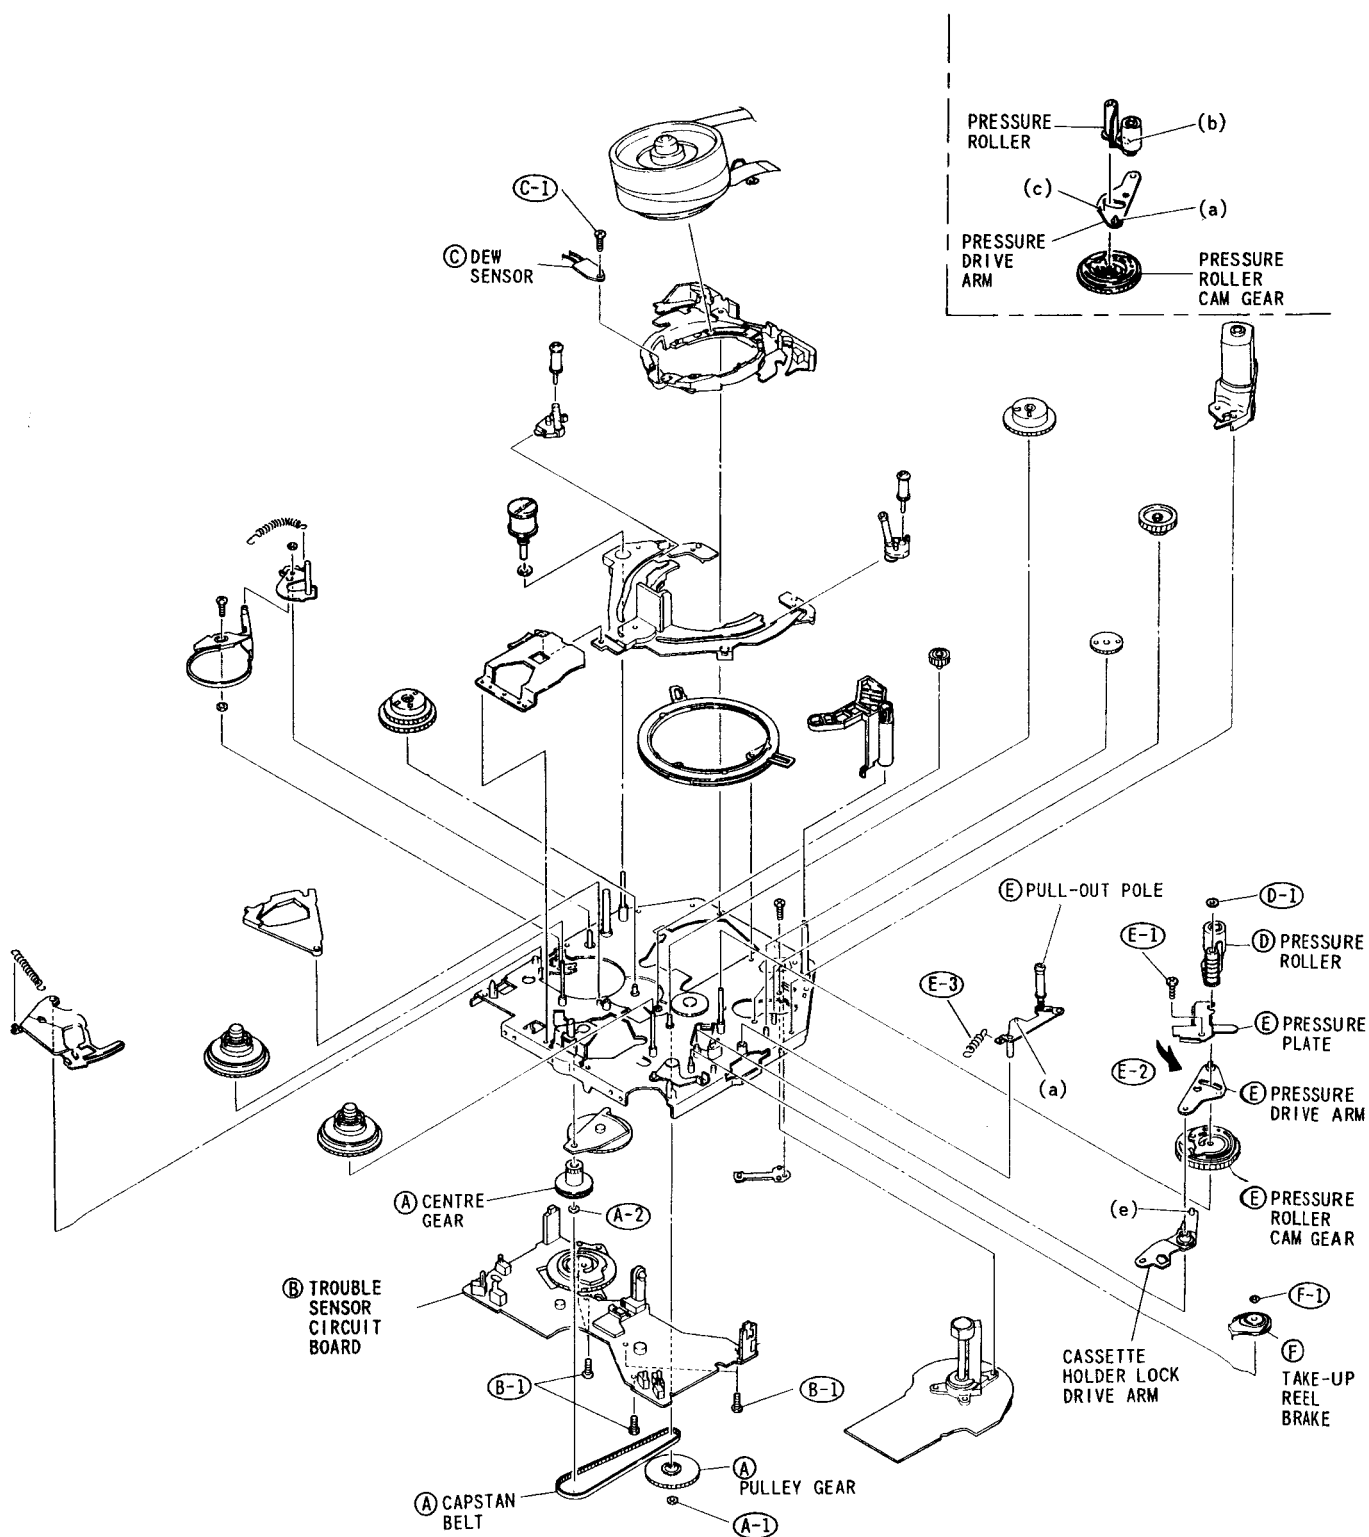

Fig. 4-4
A. Pulley Gear, Centre Gear and Capstan Belt (Fig. 4-4)
- Loading Motor and Loading Gears (1) and (2) 4-2
- 1) Remove one (1) washer.
- 2) Remove one (1) washer.
B. Trouble Sensor Circuit Board (Fig. 4-4)
C. Dew Sensor (Fig. 4-4)
- 1) Remove one (1) screw.
D. Pressure Roller (Fig. 4-4)
- 1) Remove one (1) screw. (See Fig. 4-4)
F. Take-up Reel Brake (Fig. 4-4)